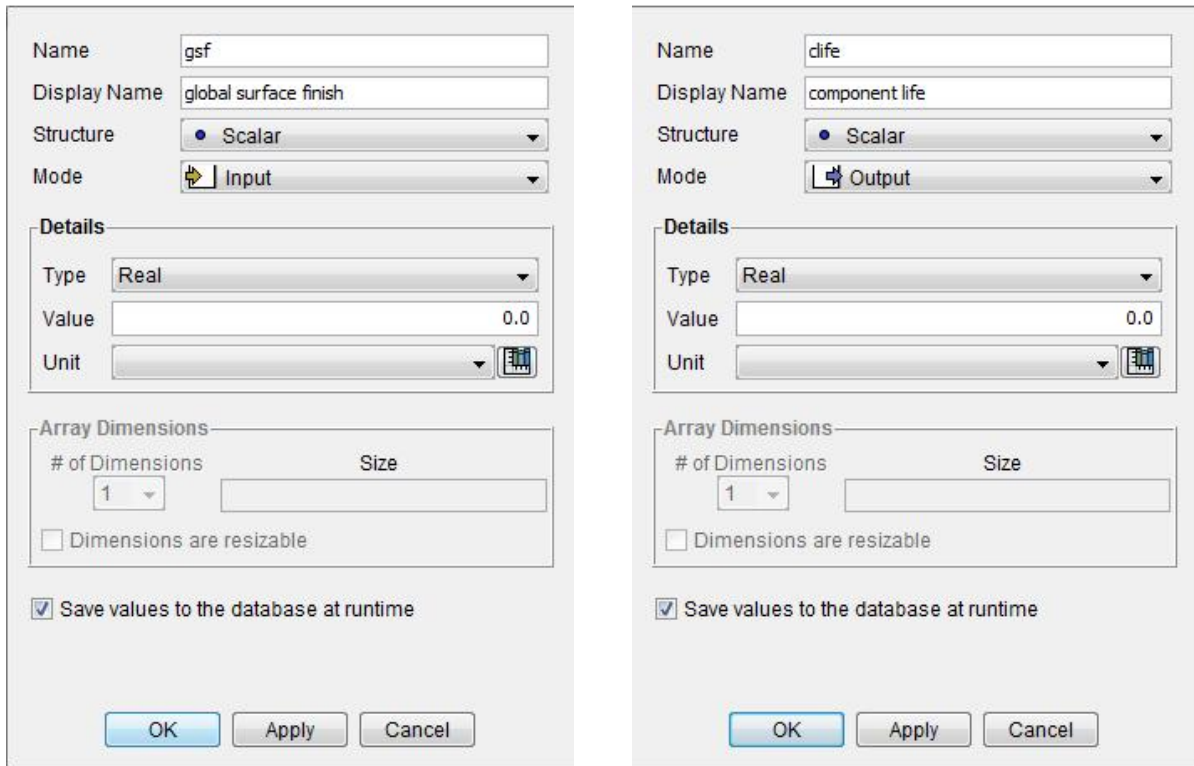

Figure 6-4: Creating the two parameters
- 6) Highlight the loop, go to the **Parameters** tab and create two new parameters as shown in figure 6-4.